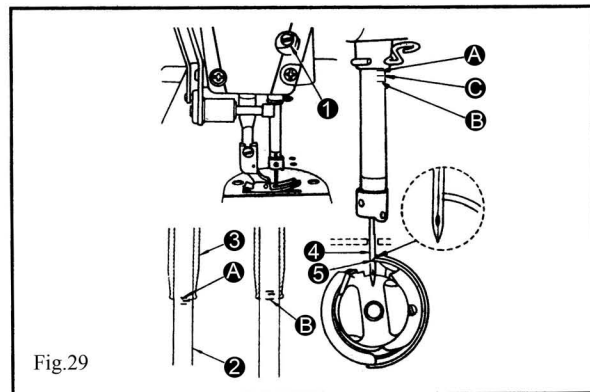

Fig.29
① Loosen screw ② of crank ①
② Move the feed bar up or down to make adjustment.
③ Securely tighten screw ② .
23. Needle-to-hook relationship (Fig.29)